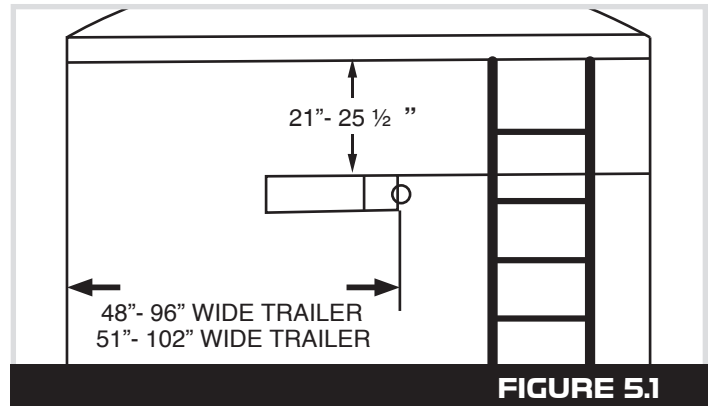
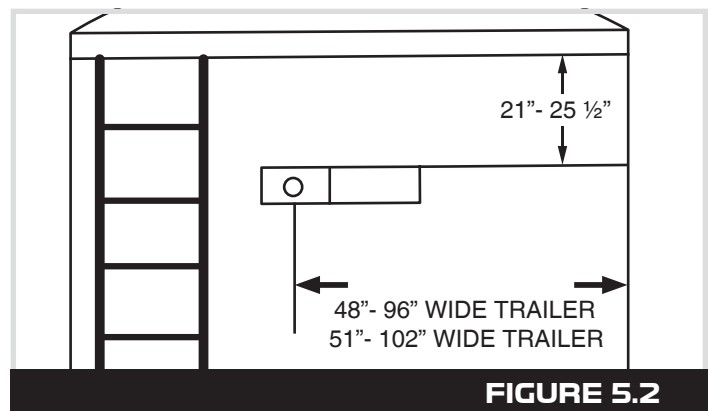
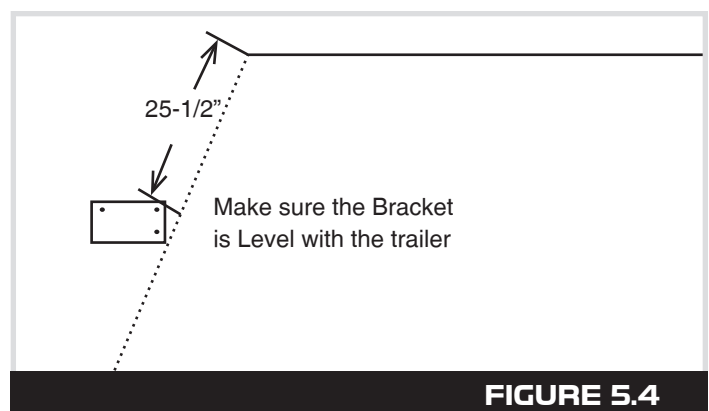

FIGURE 5.1
FIGURE 5.2
FIGURE 5.4
Refer to Figure 5.1. For slant nosed trailers measure approximately 25 ½" from the bottom of the tarp cap. **Refer to Figure 5.4.**
2. On the rear of the trailer, measure from the bottom of the tarp cap, straight down 21"- 25 ½" and put a mark on the rear face of the trailer as close to center as possible. **Refer to Figure 5.2.** For slant-nosed trailers, measure approximately 25 ½" from the bottom of the tarp cap. **Refer to Figure 5.4.**
6. If you have a slant-nosed trailer, bolt the outer brackets on using the two lower rear-most bolts. Then rotate the brackets down until the top holes on the outer bracket line up with the forward-most holes on the inner bracket. It will appear as shown in **Figure 5.4.**